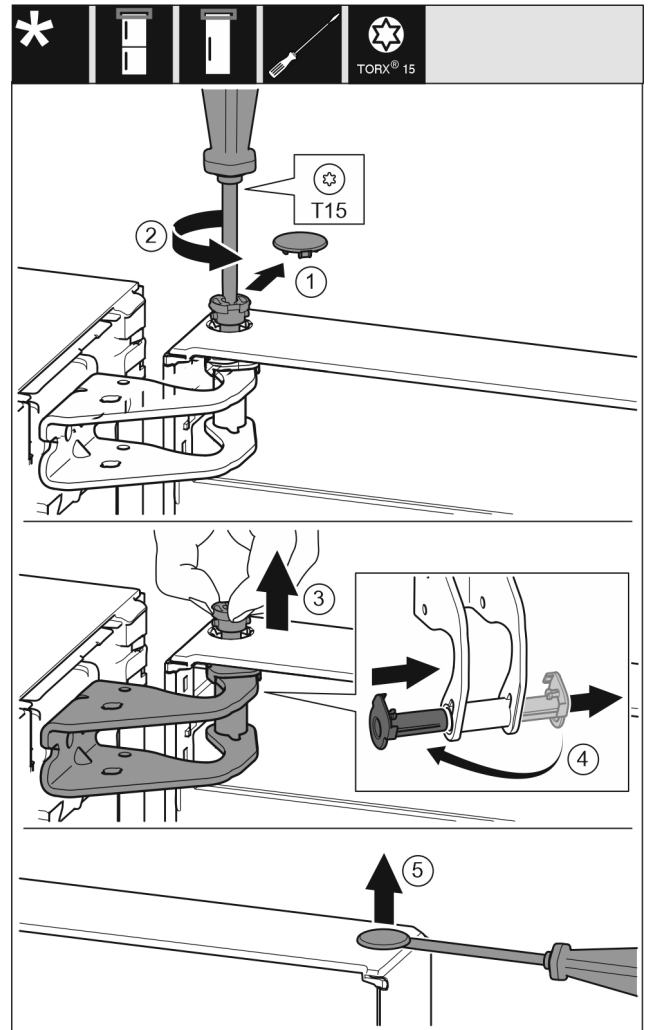

Fig. 9
- ▶ Carefully remove the protective cover. Fig. 9 (1)
- ▶ Loosen the bolts slightly with a T15 screwdriver. Fig. 9 (2)
- ▶ Hold the door and remove the bolts with your fingers. Fig. 9 (3)
- ▶ Pull the bearing bush out of the guide. Insert from the other side and latch into place. Fig. 9 (4)
- ▶ Carefully lift the plugs out of the door bearing bush with a slotted screwdriver and remove them. Fig. 9 (5)